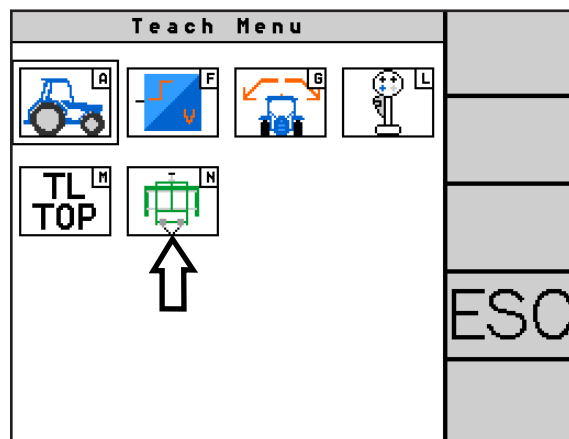

Fig. 82: Accessing SLIDE teaching
Select the PSR SLIDE symbol (N) in the teach menu (see Fig. 82) to call up the “Teach SLIDE” menu.